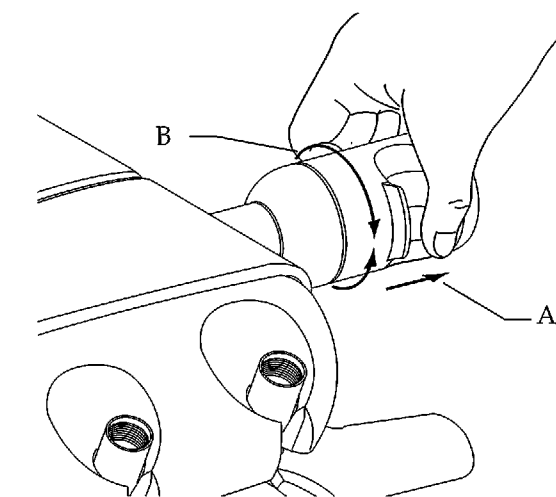

Figure 99. Position the holder. (A) pull holder; (B) turn to position
- Turn to desired position and release, as shown in Figure 99.